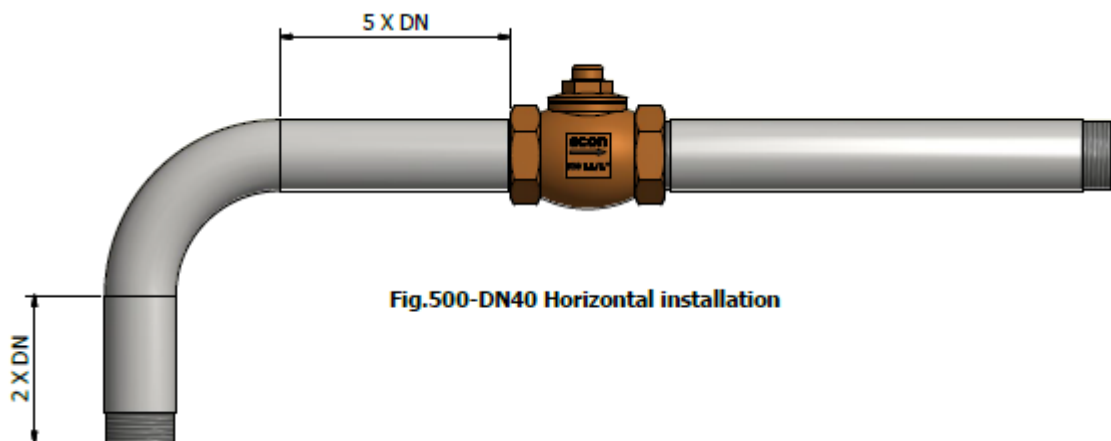

Fig.500-DN40 Horizontal installation
- the lift type check valves, without spring (Fig.500) can only be installed in a horizontal pipeline